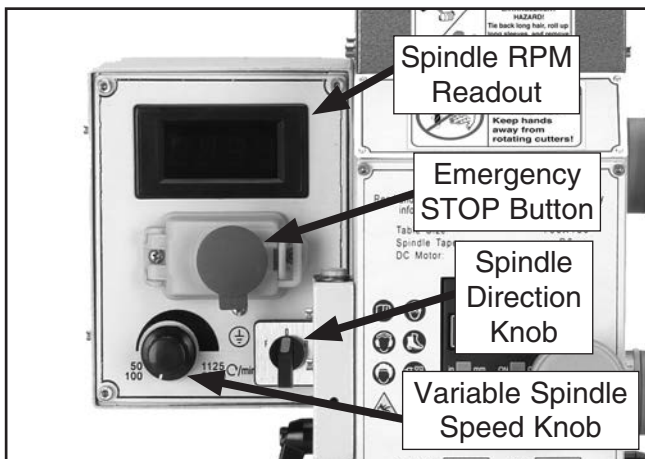

Figure 17. Test run controls.
3. Place the spindle direction selection knob in the "0" (OFF) position and press the emergency STOP button (**Figure 17**)